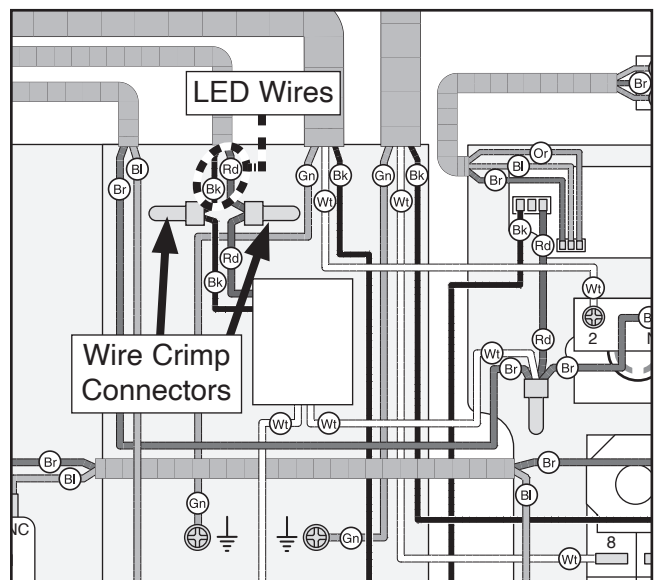

Figure 84. LED wiring.
- Disconnect LED wires from wire crimp connectors shown in **Figure 84**, then tie string to end of LED wires to aid in installation of new LED.